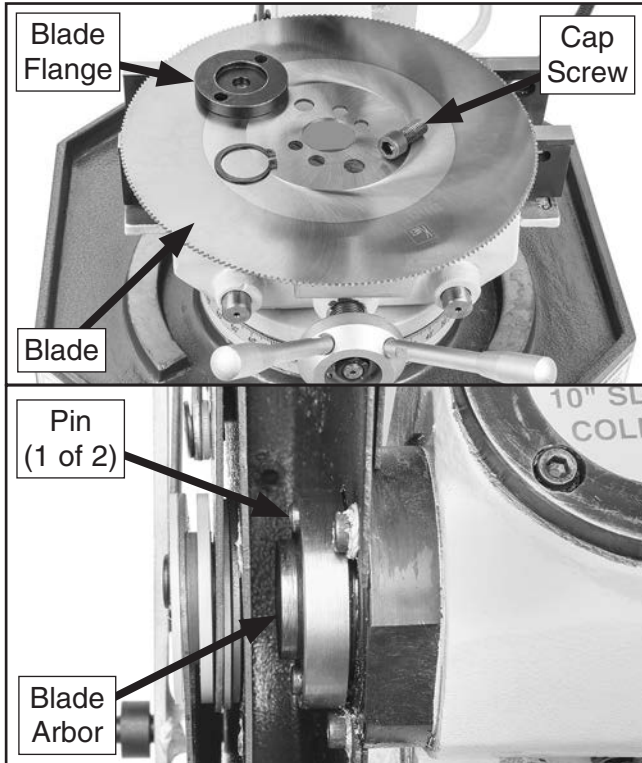

Figure 33. Blade flange and blade removed and blade arbor exposed.
5. Rotate retractable blade guards out of way, and remove blade flange and blade (see **Figure 33**).
Note: Blade flange and blade need to be moved slightly to the left to clear pins on blade arbor (see **Figure 33**).
6. Slide blade onto blade arbor and rotate until pins (see **Figure 33**) align with holes in blade, then push blade against blade arbor.